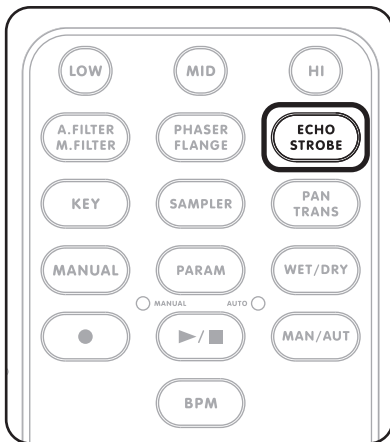

Figure 4.17
1. Select the effect you want to use. (Figure 4.17) You can use the FX Cue function to hear it without sending it to the main outputs (just have the CHANNEL FX ON but the FX Engage button OFF).